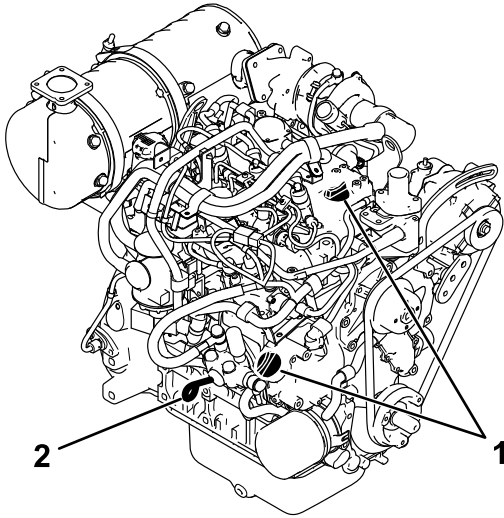

Figure 52
5. Clean the area around the oil dipstick and oil-fill cap (Figure 52).